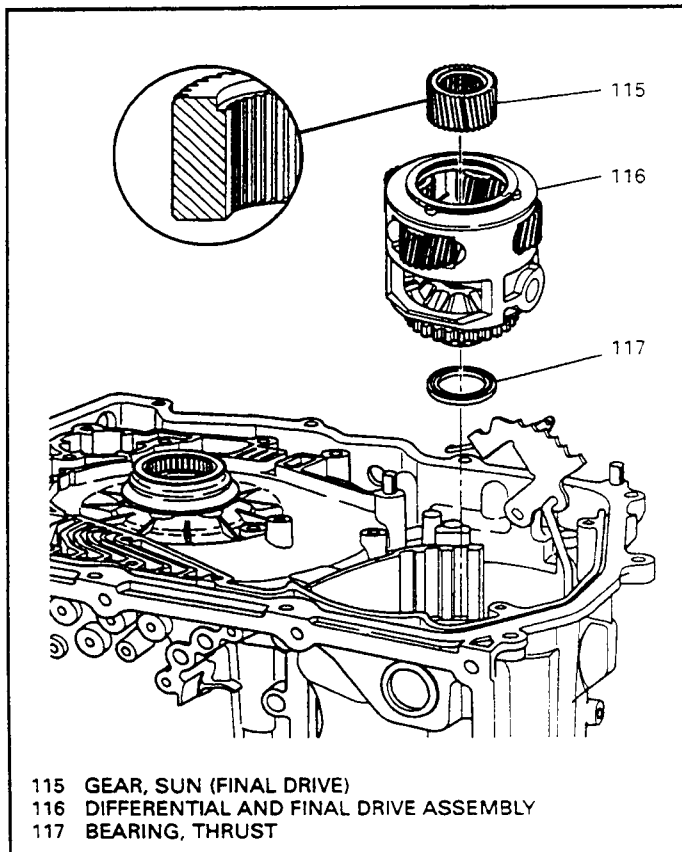

Figure 107
36. Install the final drive carrier to case thrust bearing (117) onto the final drive and retain with "Trans-Jel" (See Figure 107).
37. Install the complete final drive carrier (116), into the transaxle by rotating into position in the ring gear (See Figure 107).
38. Install the final drive sun gear into the final drive carrier with the grooved side facing up, as shown in Figure 107.